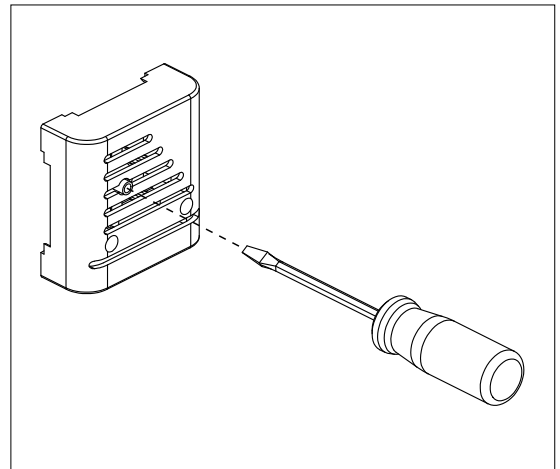

Figure 7.12-1: reactivation of the overheat protector
- The overheat protector of the heater has tripped: the cause of the overheat protection tripping must be determined! The overheat protector can be reactivated by pressing the temperature sensor (Figure 7.12-1).